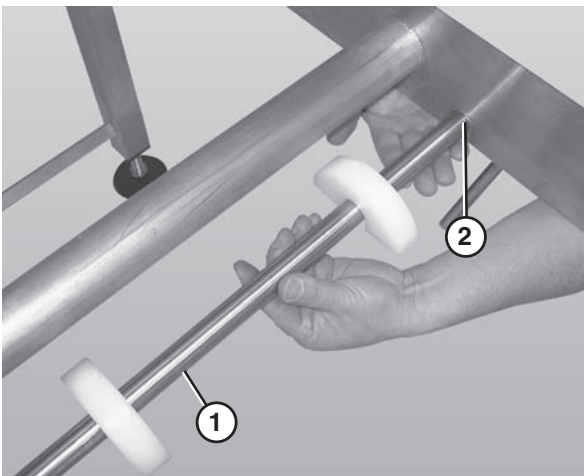

Figure 63
1. Remove the belt returns by pushing up on the return shaft (Figure 63, item 1) and sliding it through the large hole (Figure 63, item 2) in the frame.
2. Lower the opposite end of the return shaft (Figure 63, item 1) and slide it out of the frame.